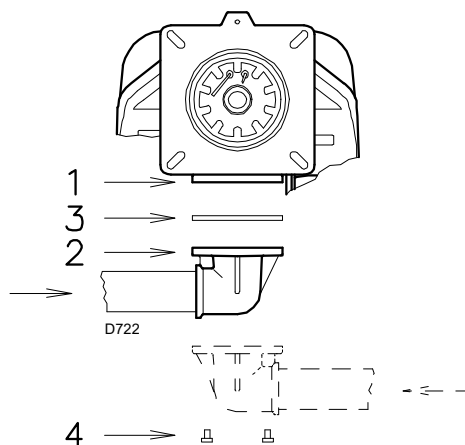

Fig. 29
- The gas train must be connected to the gas attachment 1) with the flange 2), the gasket 3) and the screws 4) supplied with the burner (Fig. 29).